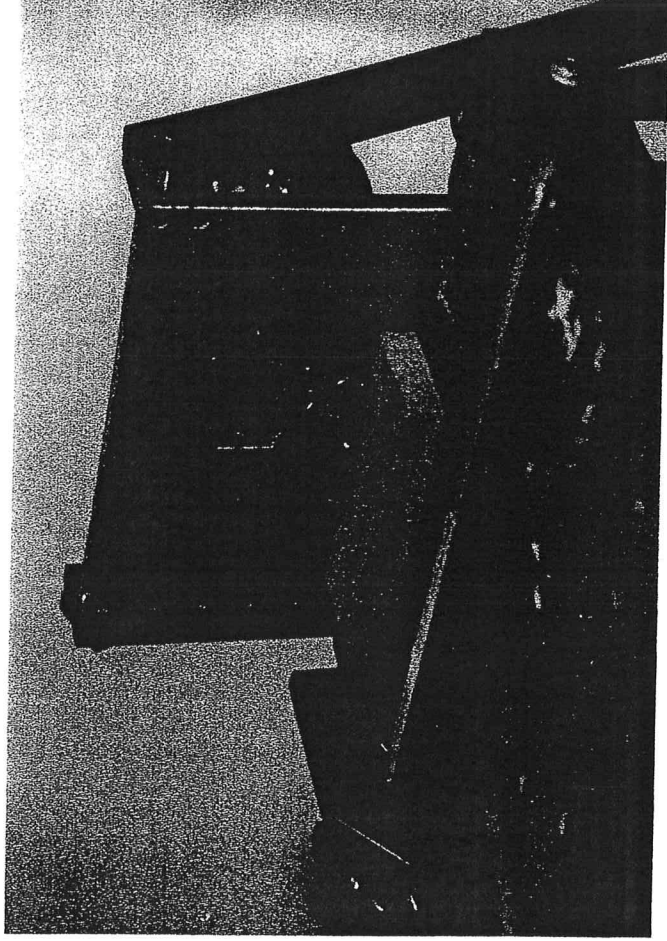

Fig. 9
8. Plunge cut mortise to the width marked. (fig. 9)